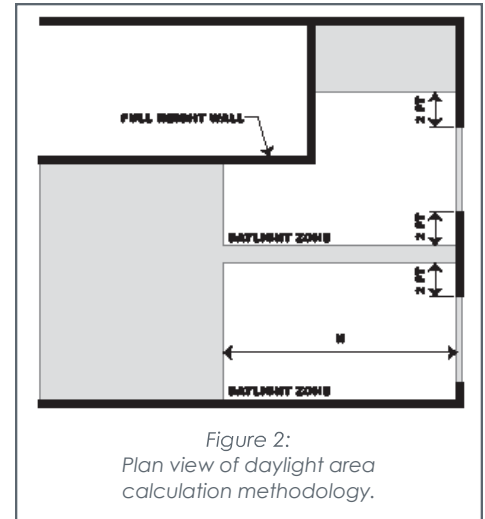

Figure 2:
- For vertical windows, daylight zones depth ends at the nearest full-height wall or up to 1.0 times the height from the floor to the top of the fenestration (H in Figure 2). The daylight zone width extends to the nearest full-height wall or up to 2 feet, whichever is less.